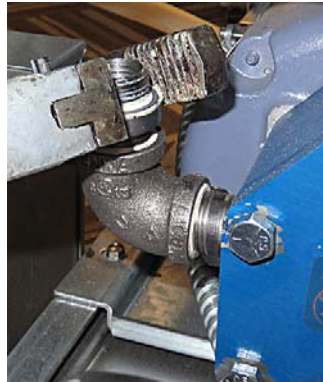

Figure 59
58. Remove the check valve fittings and the 90° elbow from the filter pump (see Figures 59 and 60). It may be necessary to loosen